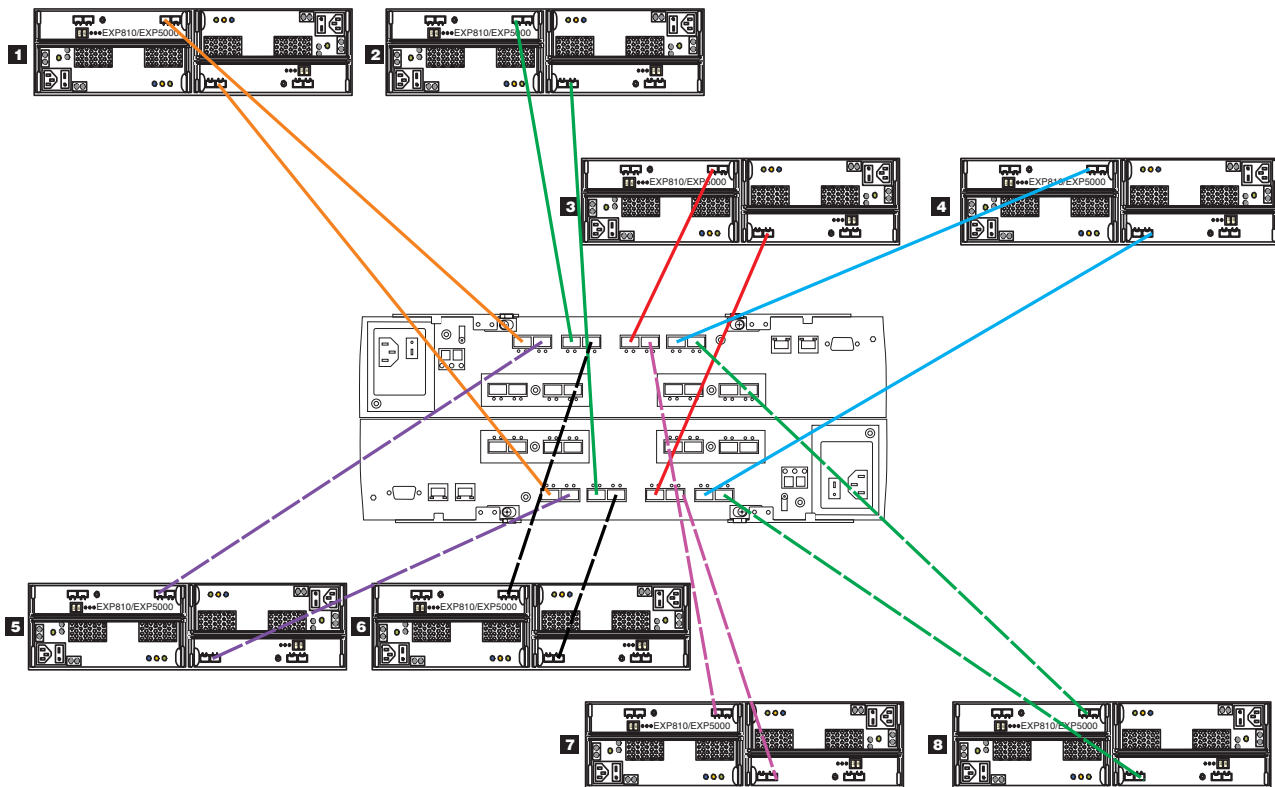

Figure 11. Use all drive channel ports when connecting storage enclosures
- When you connect the storage enclosures to drive mini hubs, do not use all ports in each of the drive mini hubs in the DS4400 or DS4500 storage subsystem. Connect the Fibre Channel cable to only one port of the drive mini hub and leave the other port unoccupied. However, when you connect the storage enclosures to drive channel ports (such as on the the DS4200, DS4700, DS4800, DS5020, DS5100, and DS5300 storage subsystem), use all ports in each of the drive channels. Figure 11 illustrates connecting eight storage enclosures to the DS5000 storage subsystem. The eight enclosures are connected to use all of the drive channel ports in the DS5000 storage subsystem instead of stacking the storage enclosures behind a subset of drive channel ports.